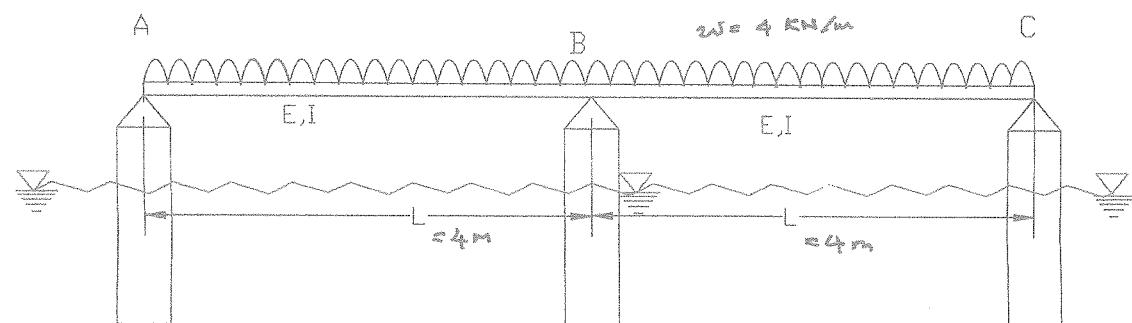

Fig. Q2
- b) A straight elastic beam ABC of uniform cross section with constant flexural rigidity $EI = 4.2 \times 10^5 \text{ kNm}^2$ is used as a floating bridge deck across a waterway. Deck is supported on three cylindrical floats at A, B and C, which are equally spaced (distance " $l=4m$ ") along the section as shown in Fig Q2. The maximum load expected on the beam deck is considered as a uniformly distributed load of $w = 4 \text{ kN/m}$. It is expected that supports will settle based on the magnitude of the reaction and the buoyancy force (uplift force acting on the floats due to water pressure) causing additional moment on the deck. Ignore the self-weight of the beam and the buoys. Assume that the bridge deck is straight before the application of the imposed load. Buoys used as support were cylinders having 1.4 m diameter.